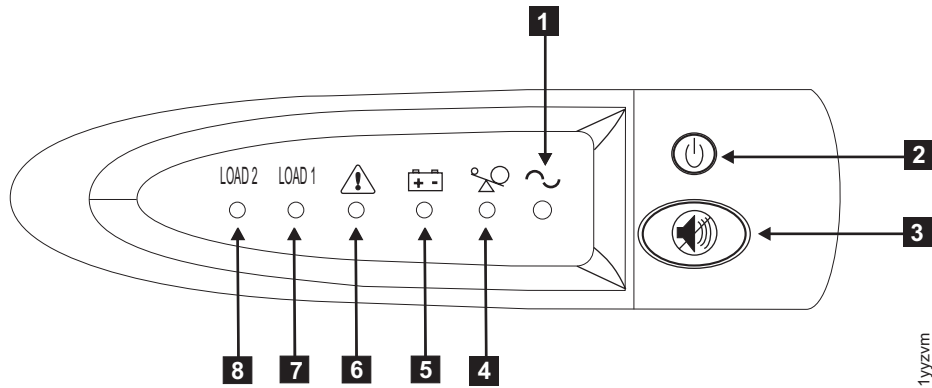

Figure 212. The 2145 UPS-1U front panel assembly
12. To turn on the 2145 UPS-1U, press and hold the on/off button (**2** in Figure 212 on page 488). The 2145 UPS-1U undergoes a self-test, taking approximately five seconds, before the power-on indicator **1** and the load indicators (**7** and **8**) light up permanently to indicate that the 2145 UPS-1U is supplying power to the SAN Volume Controller. The 2145 UPS-1U begins to charge its battery while in normal mode.